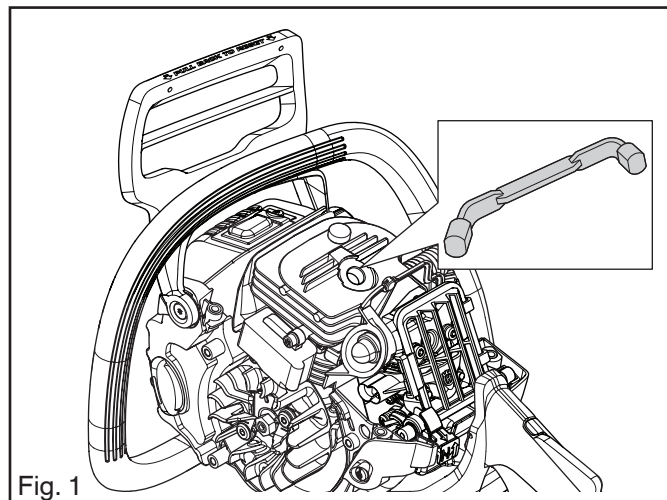

Fig. 1
3. Clean and remove any dirt around the spark plug. Unscrew the spark plug and fit the piston stop 575 29 36-01 in spark plug hole. See figure 1.